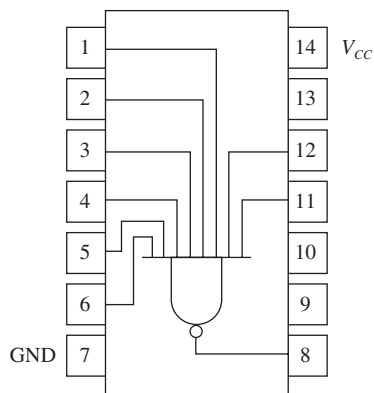

Figure P47
- T** 47. Your company has purchased several of the 7430 eight-input NANDs shown in Figure P47. List the steps that you would follow to determine if they are all good ICs.